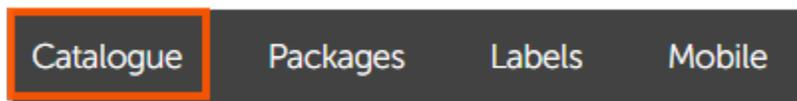

Figure 4: Navigation bar with Catalogue
1. Go to the Catalogue in the menu —see **Figure 4**.